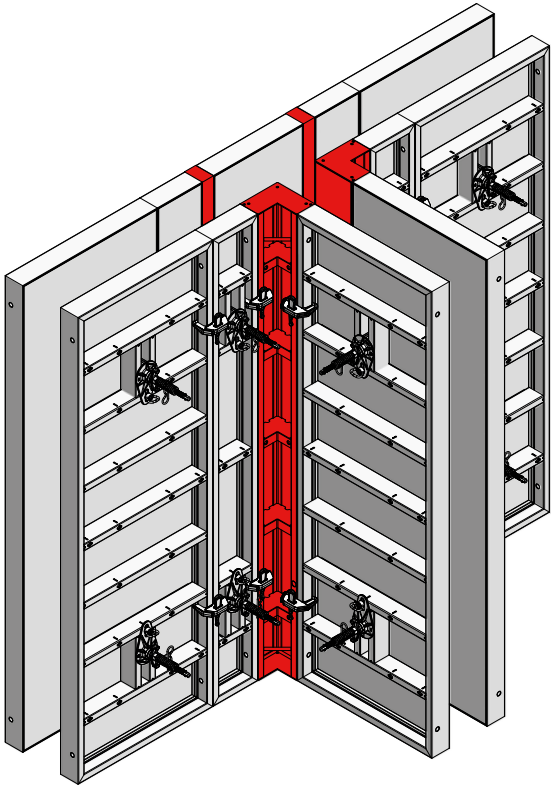

Fig. 56.1
A T wall connection can be formed using two ST inside corners (IC) (Fig. 56.1).
Depending on the wall thickness, timber fillers with the corresponding thickness are used on the long wall opposite the inside corner (Figures 56.1 and 56.2 and Table 56.3).
30 cm wide StarTec XT panels are to be installed next to the inside corner (Figures 56.1 and 56.2).